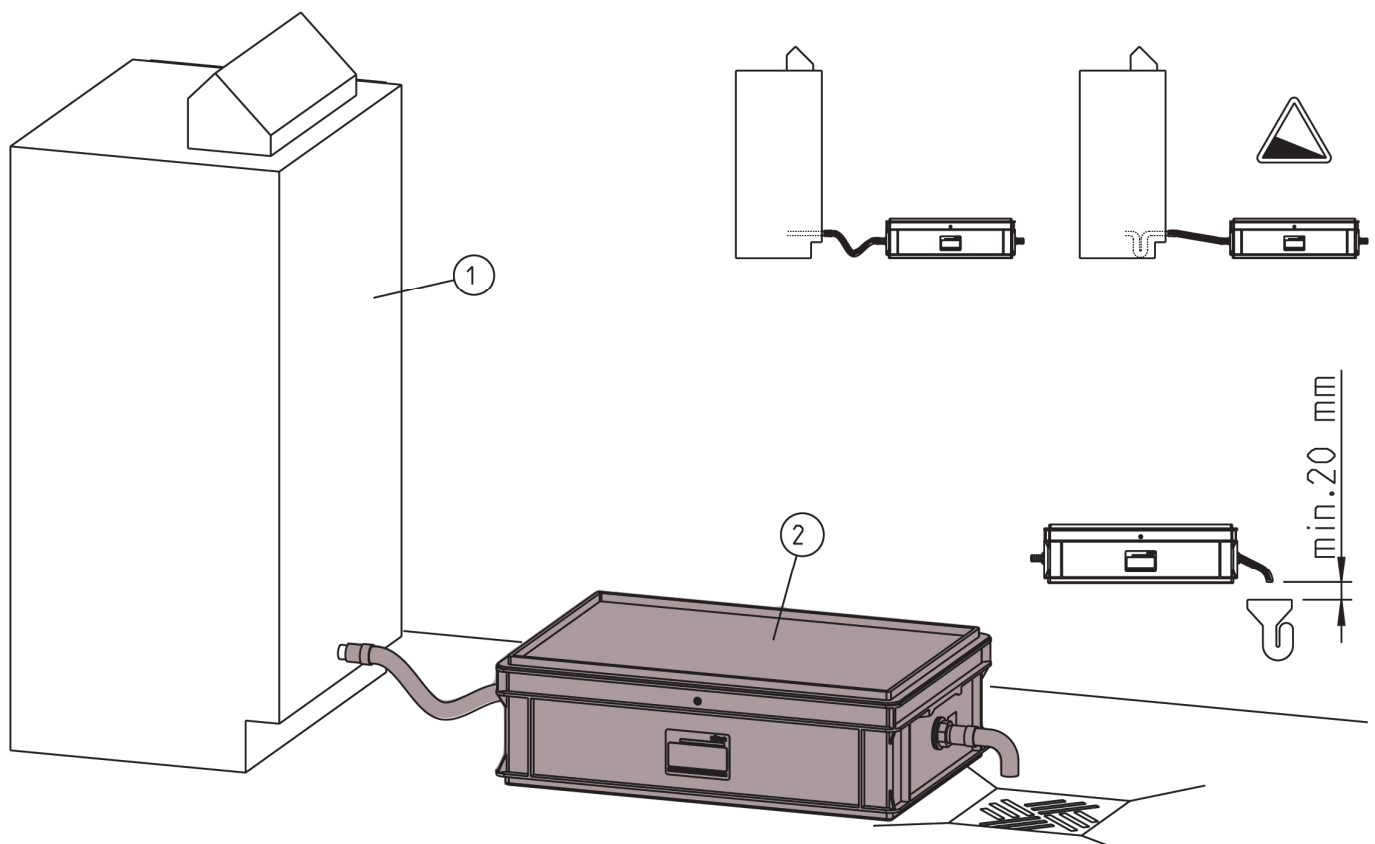

Fig. D-1: Installation example
- The drain hose must not be connected directly to the drain pipe in order to prevent a retroactive bacterial contamination from the drain to the neutralisation system (refer to fig. D-1).
- If no siphon is available at the boiler, the inlet hose must be directed to the neutralisation system with a backwater loop (refer to fig. D-1) as well as a gradient.